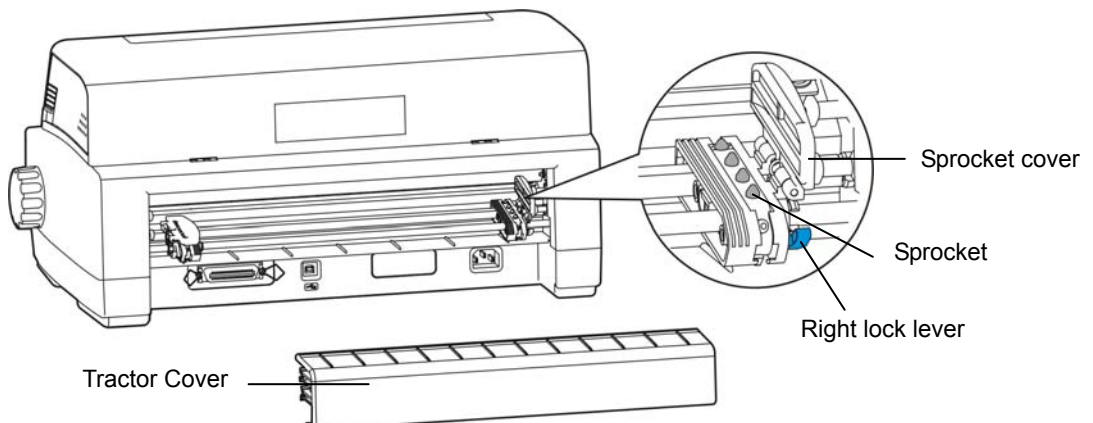

Figure 3-5 Remove the tractor cover
6. If the paper is crinkle, please adjust the right lock lever to the suited position. (Show as figure 3-5)